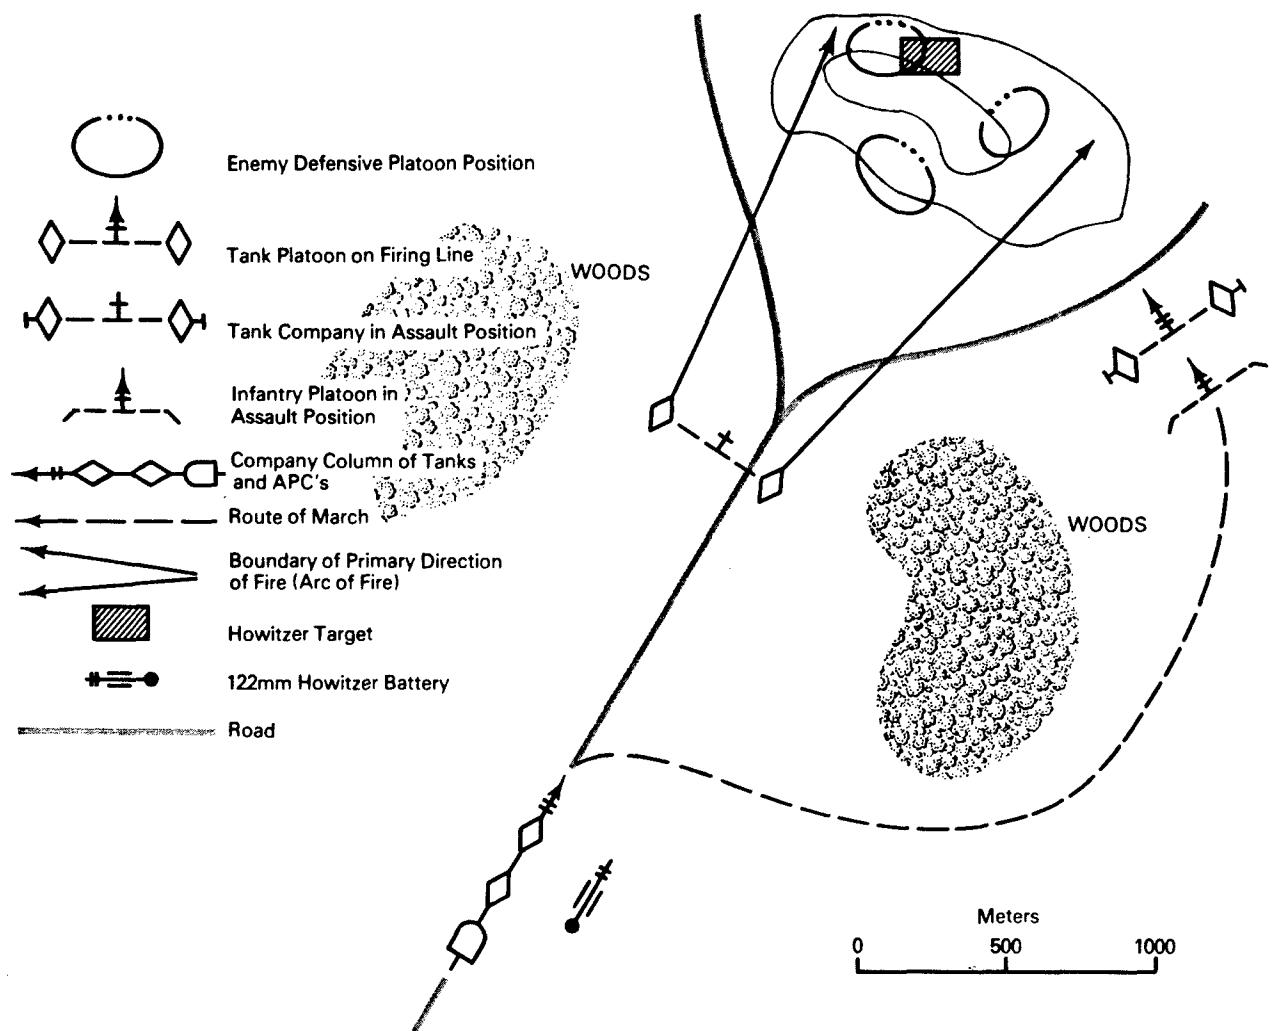

Figure 11. Enveloping Attack by Reinforced Tank Company
b. An enveloping attack - either close or deep (see Figure 11). A close envelopment is directed against the flank of an enemy and is supported by the fire of units attacking frontally. A deep envelopment is directed against the flanks or rear of an enemy to a depth beyond the range of direct fire support weapons of the frontally attacking units. An enveloping force is reinforced for independent action and coordinates by radio its tactical operation with units attacking frontally. Close and deep envelopments are usually supported by preplanned artillery fire.